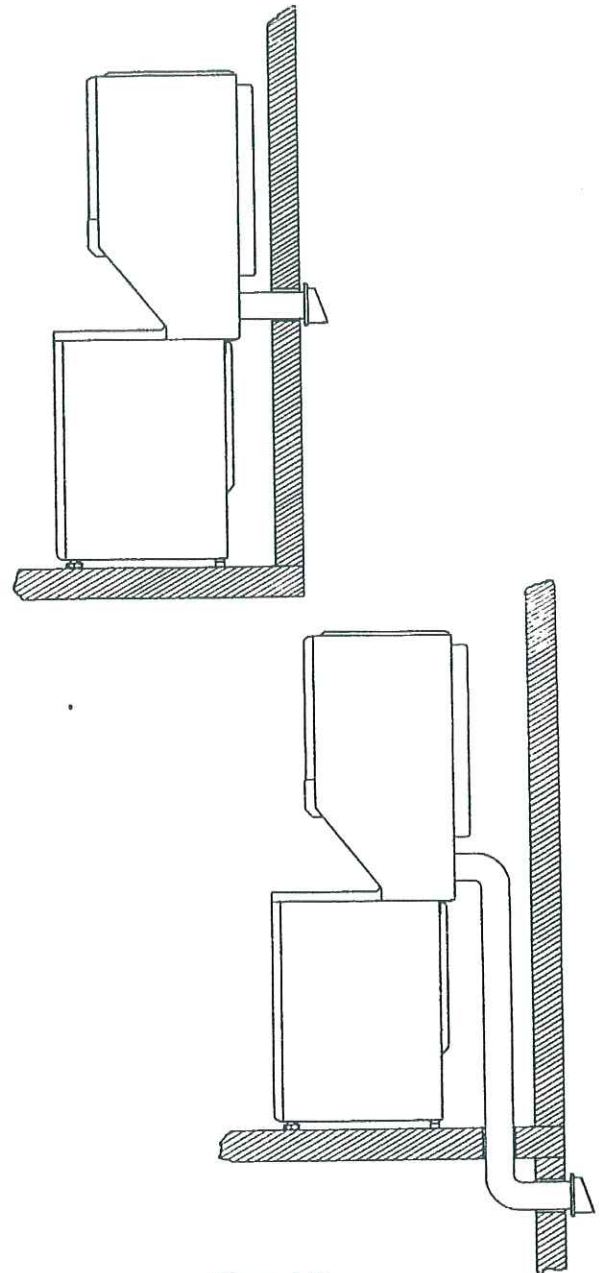

Figure A19
2. Exhaust **MUST NOT** be terminated beneath manufactured (mobile) home (Figure A19).